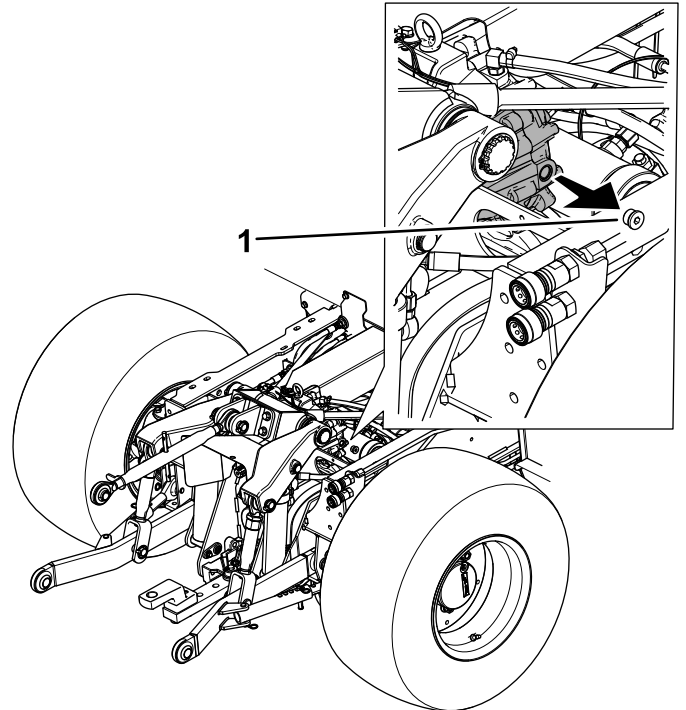

Figure 105
2. Remove the plug from the sight port of the rear PTO gearbox (Figure 105).